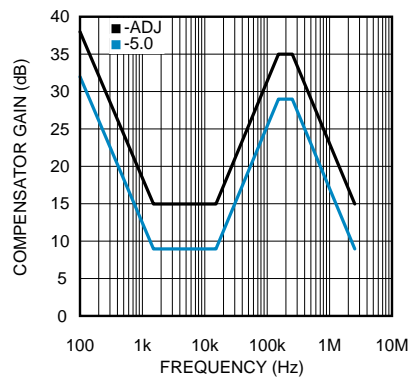

Figure 11. Compensator Gain
The complete transfer function for the regulator loop is found by combining the compensation and power stage transfer functions. The LM22674 has internal type III loop compensation, as detailed in Figure 11. This is the approximate "straight line" function from the FB pin to the input of the PWM modulator. The power stage transfer function consists of a dc gain and a second order pole created by the inductor and output capacitor(s). Due to the input voltage feedforward employed in the LM22674, the power stage dc gain is fixed at 20 dB. The second order pole is characterized by its resonant frequency and its quality factor (Q). For a first pass design, the product of inductance and output capacitance should conform to Equation 3.